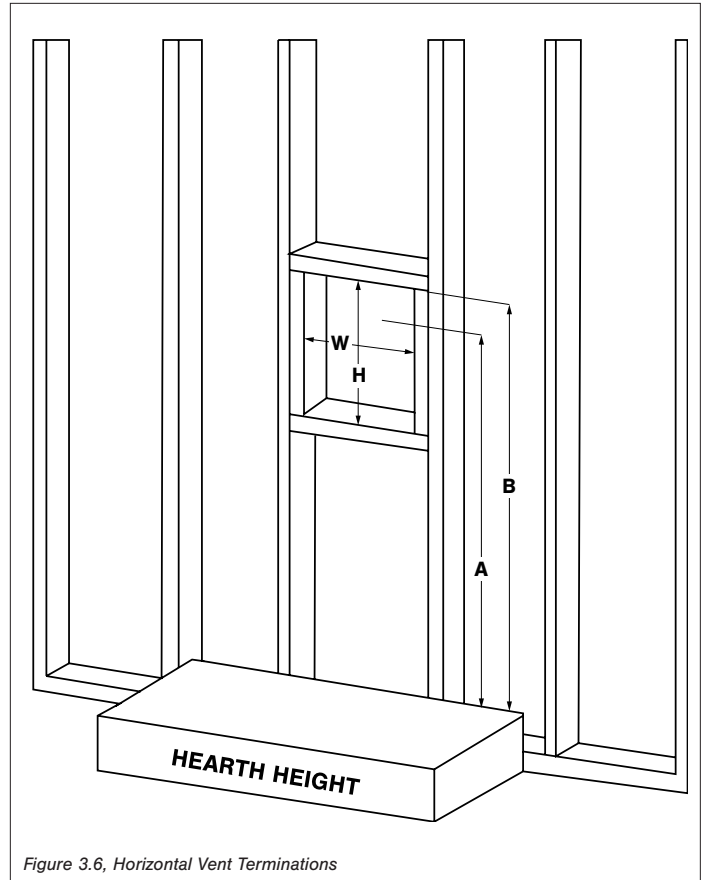

Figure 3.6, Horizontal Vent Terminations
- Refer to Table 3.2 and Figure 3.6 for horizontal vent framing.